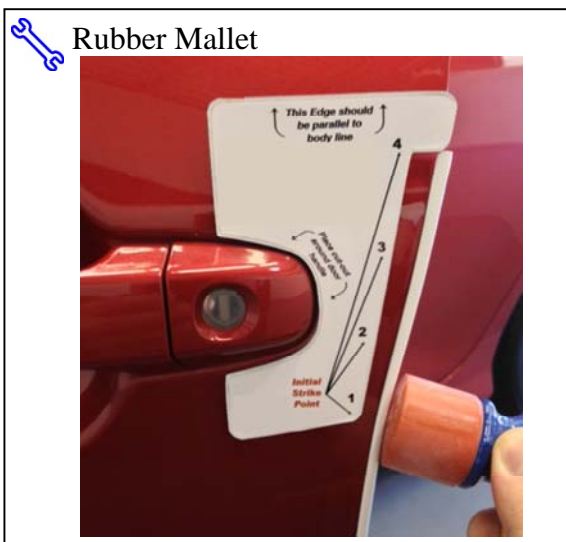

Fig. 1-6
- (4) Mallet blows need to be delivered squarely (broad face contact opposed to point contact) to the spine of the molding, and perpendicular to the door edge as shown. While holding DEG in proper alignment with one hand, use **soft side of the rubber mallet** to begin tapping the channel onto the door edge, starting at Striking Point #1 on the template (~3" inches below the top of the DEG). Ensure the channel is fully engaged onto the door edge before proceeding to the next step (Fig. 1-6).